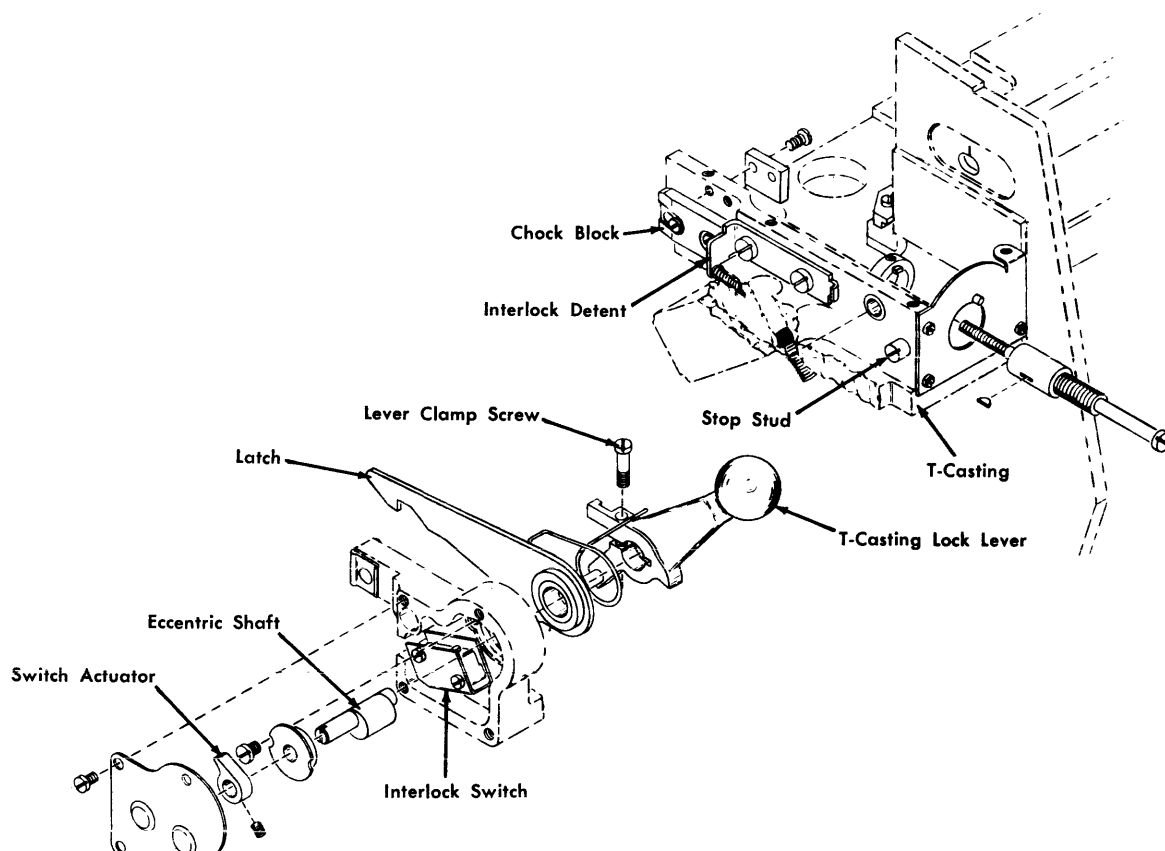

Figure 19. T-Casting Latch
- a. Loosen the chock block (Figure 19) on the T-casting to obtain the vertical adjustment.
Remove the interlock-switch cover. Check the adjustment of the T-casting latch (Figure 19).